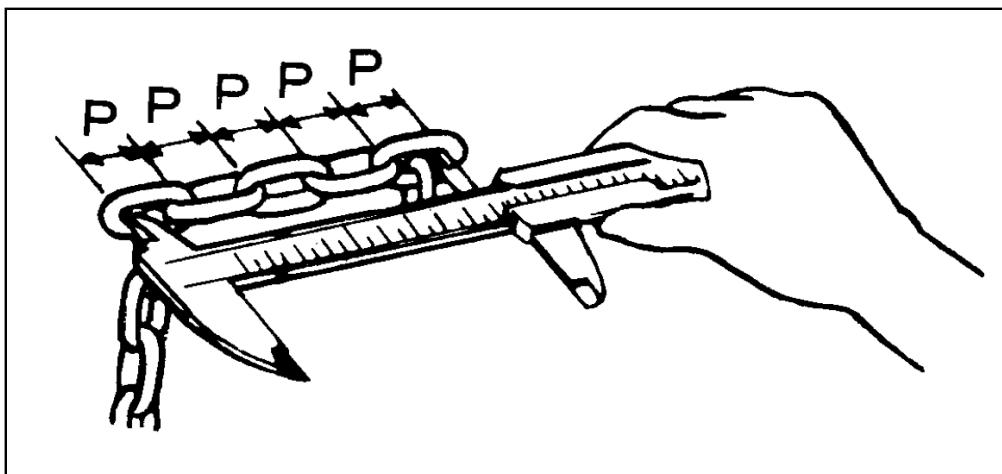

Fig 5 Checking load chain dimensions
**Checks on load chain (see Fig. 5 and Table 2)**